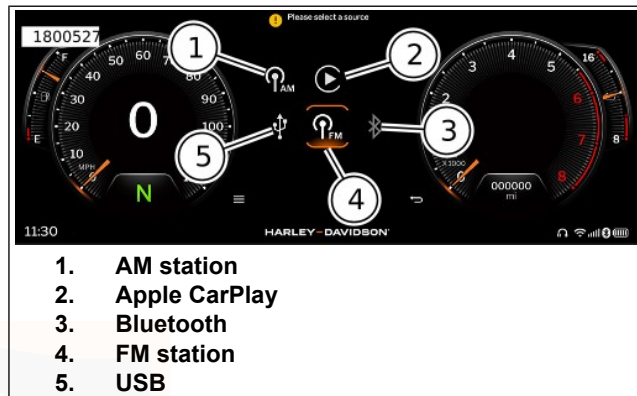

Figure 72. Selecting Source
See Figure 72. Select the desired media source by pressing OK/enter (5) button on LHCM or pressing icon on the screen.